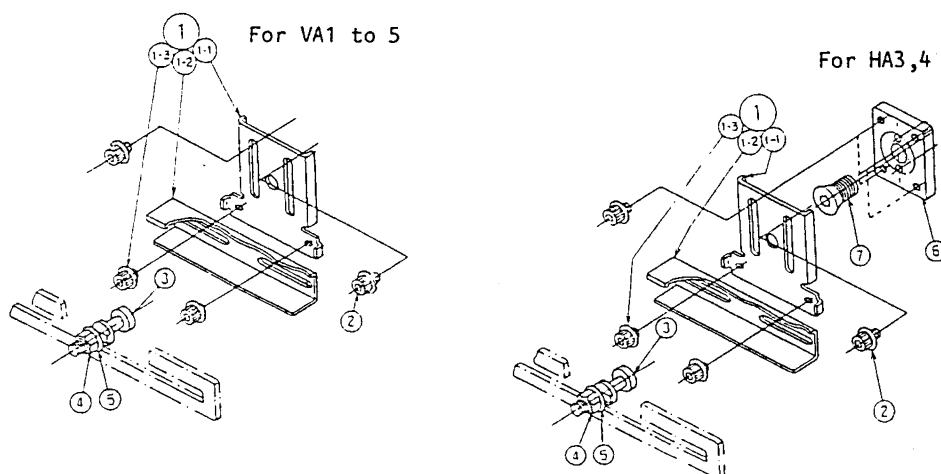

Figure 5-1, HA and VA
Fix the motion connector to the pointer with the two hex-hole bolts. Fix the slide rail with the two hex-hole screws of the slide rail section as shown in Figure 5-1. Depending on the type or stroke of the actuator to be used in conjunction, install connector plate ① in the reverse (upside down) of the direction shown in Figure 5-1. Make sure that the slide rail and positioner lever are parallel and horizontal when valve is at midstroke.